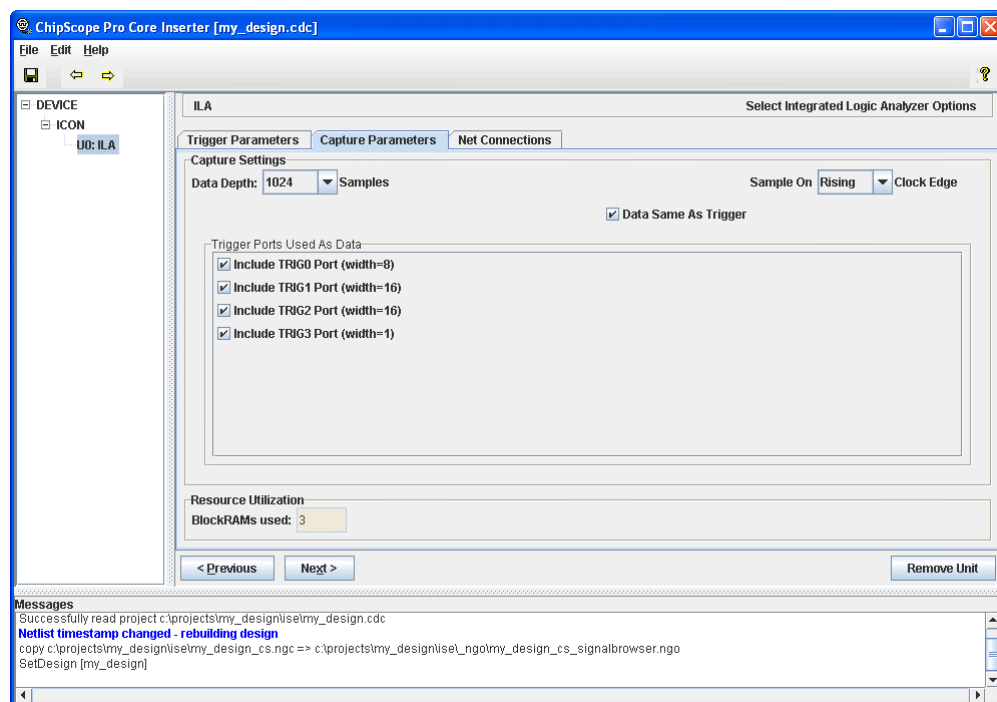

Figure 3-10: ILA Core Data Same As Trigger Parameters
- **Data Same as Trigger (Figure 3-10)**